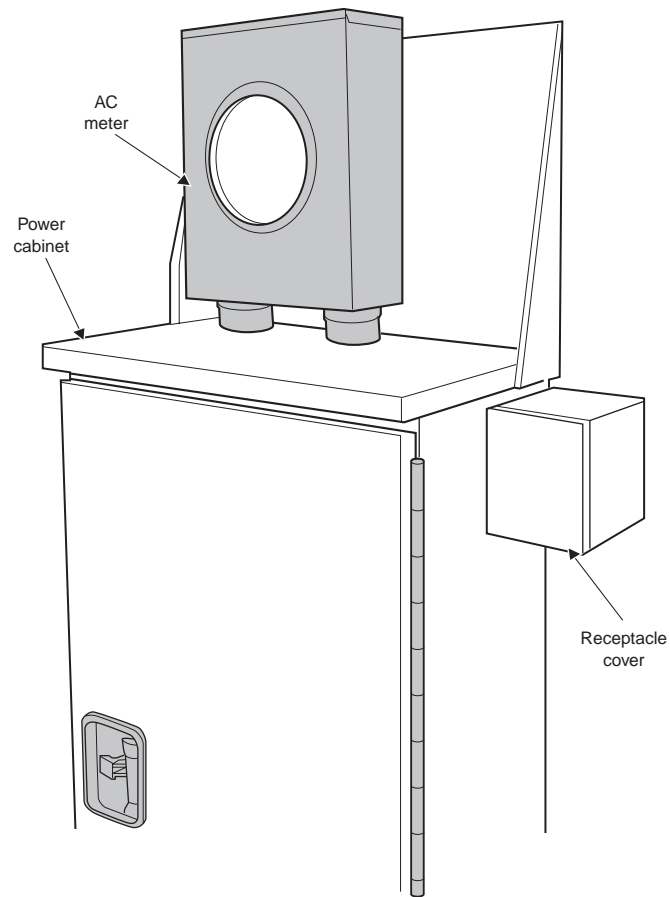

Figure 42. AC Meter Socket Installed
- 4 At the power transfer cabinet, remove the cover from the female receptacle located on the outside of the power transfer cabinet as shown in Figure 42 on page 49.